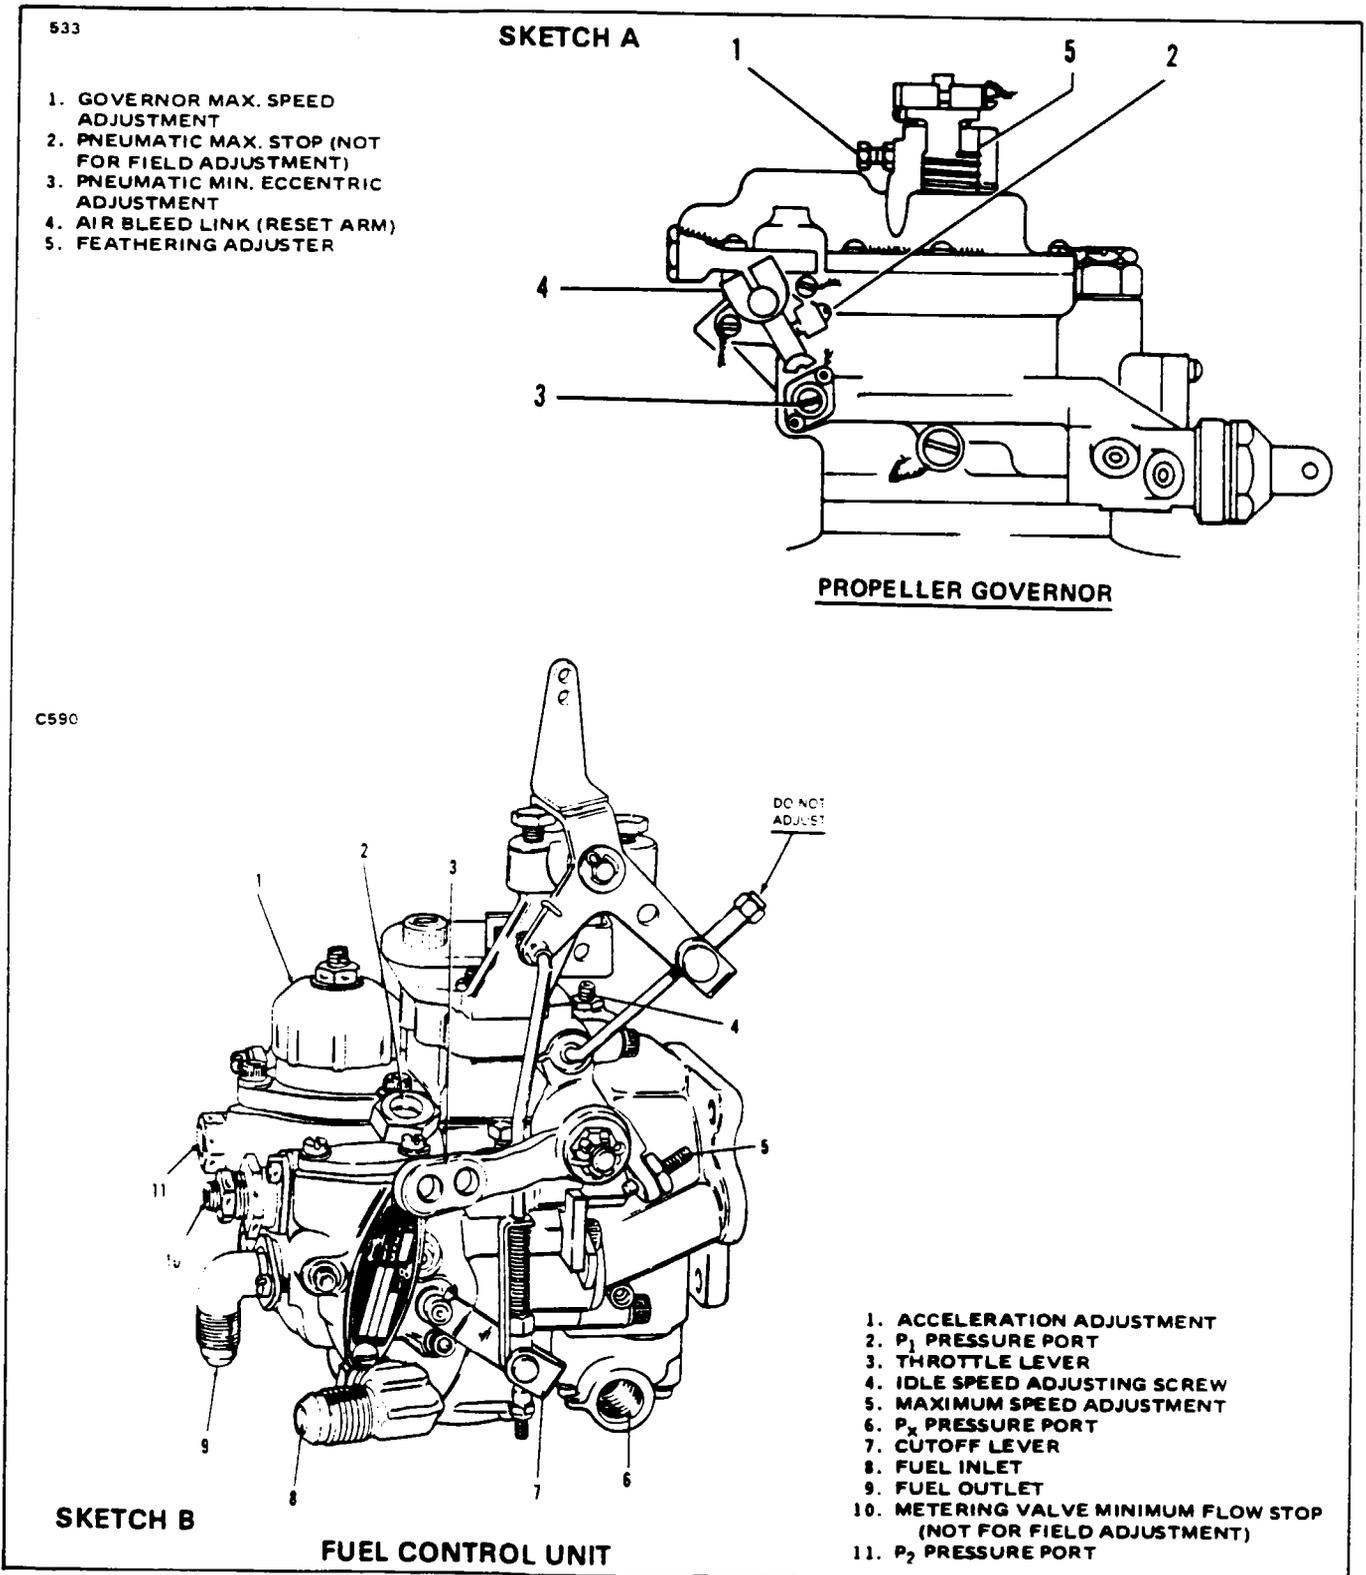

Figure 76-5. Fuel Control Unit and Propeller Governor Running Adjustments
- D. If Ng is less than 52%, adjust minimum governing speed adjuster (refer to Figure 76-5, Sketch B) to obtain 52% Ng minimum.
- (1) Cut lockwire on adjuster.
- (2) While using an Allen key to prevent the adjuster screw from turning, break the torque on the locknut.
- (3) Turn the adjuster in increments until 52% Ng is reached. Turn adjuster clockwise to increase, counterclockwise to decrease.